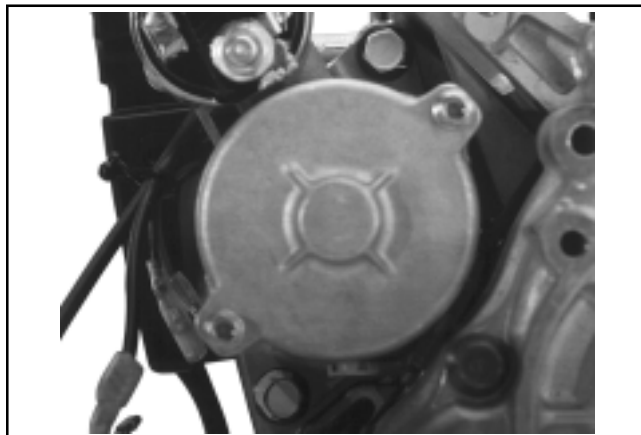

Figure 11-95.
1. Align and mount the electric starter motor to the crankcase. Install and torque the two hex. flange screws to **30 N·m (265 in. lb.)**. See Figure 11-95.